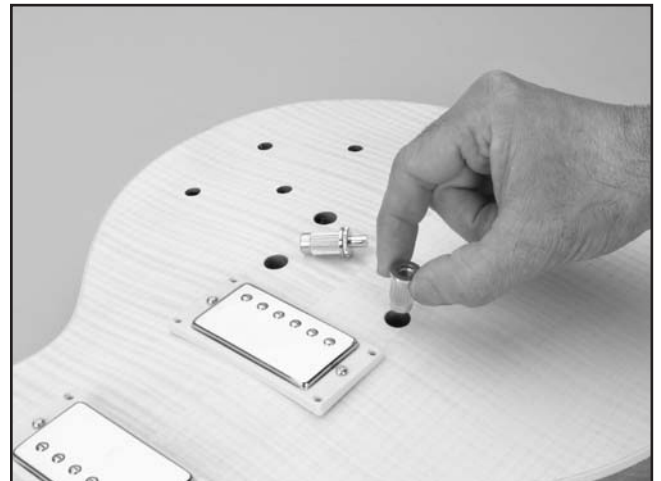

Figure 17. Threaded insert placement.
1. Place two inserts into the forward holes as shown in **Figure 17**.